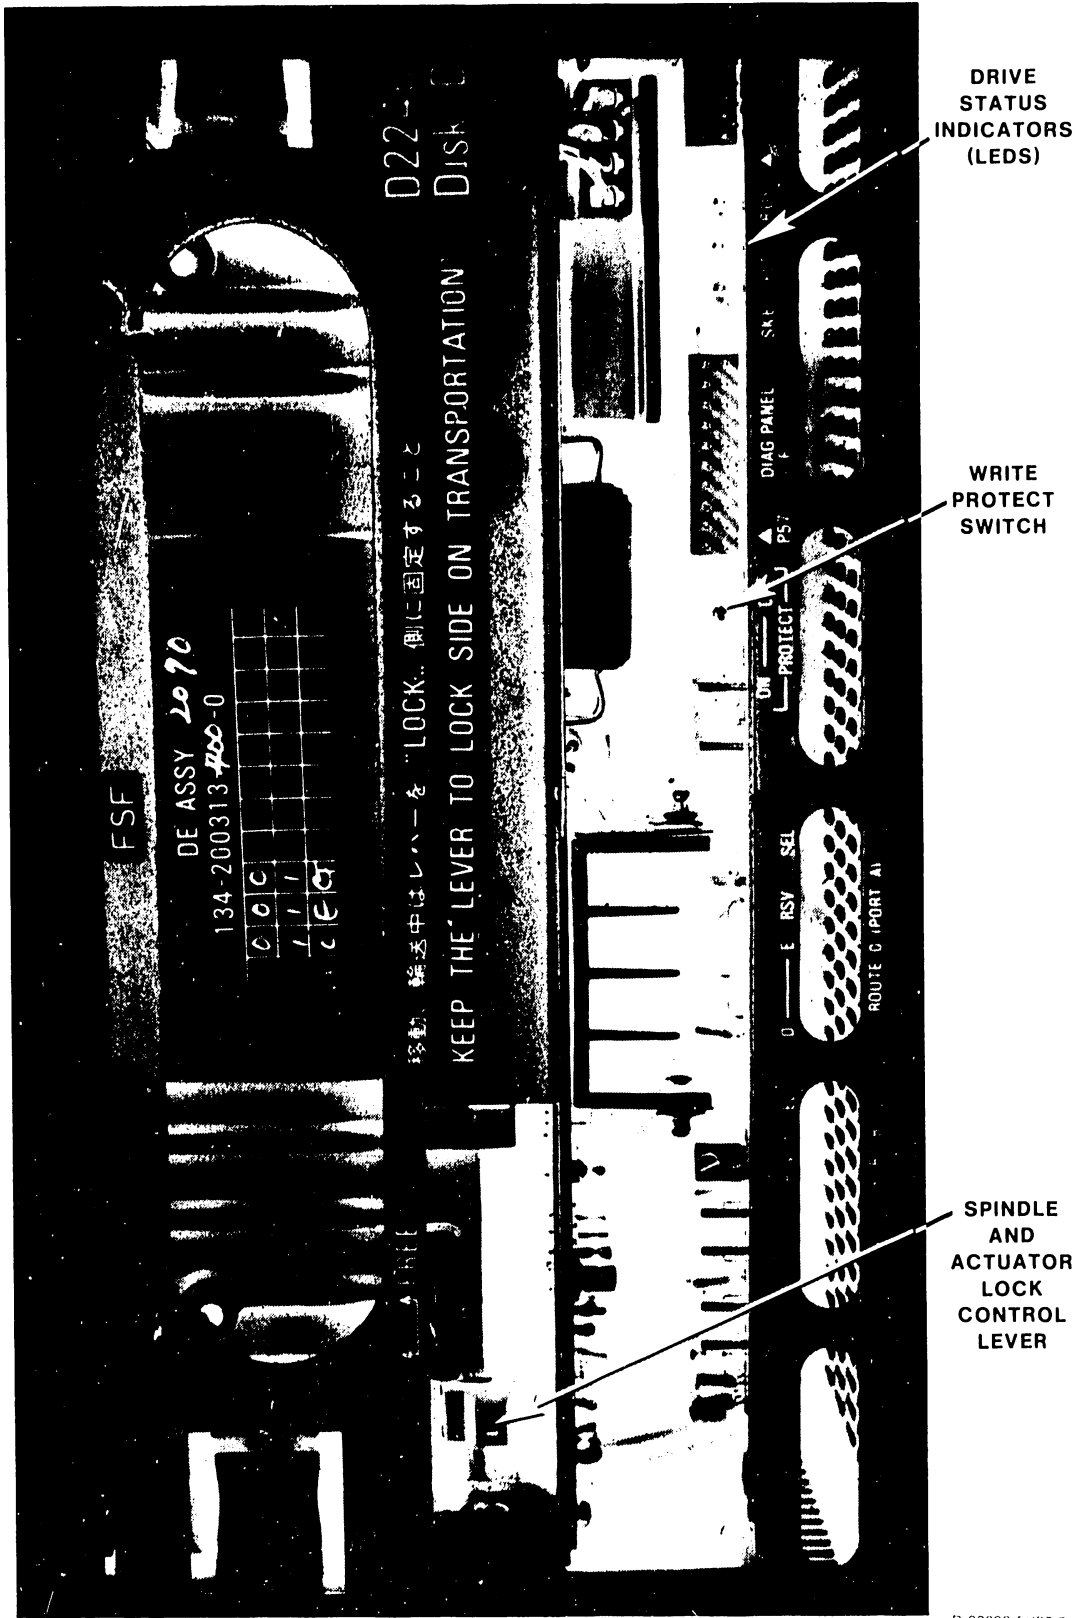

Figure D-7. 76-Megabyte Internal Disk Drive (Front View/Installed)
When a new drive is being installed, check the Control Mode, Number of Sectors, and Installation switch banks as follows (if necessary, refer to TSB HWT 5120, section 3.1.12, TACNL 50625 and figure D-7 on page D-18):
1. Rotate the drive 90 degrees to the left (CCW), with the red Spindle and Actuator Lock Control Lever facing you (see figure D-7).
5. Unlock the Spindle and Actuator from their shipping positions by moving the red Lock Control Lever on the front of the drive to the right, push it up as far as it will go, and then move it to the left into the FREE position. Refer to figure D-7.